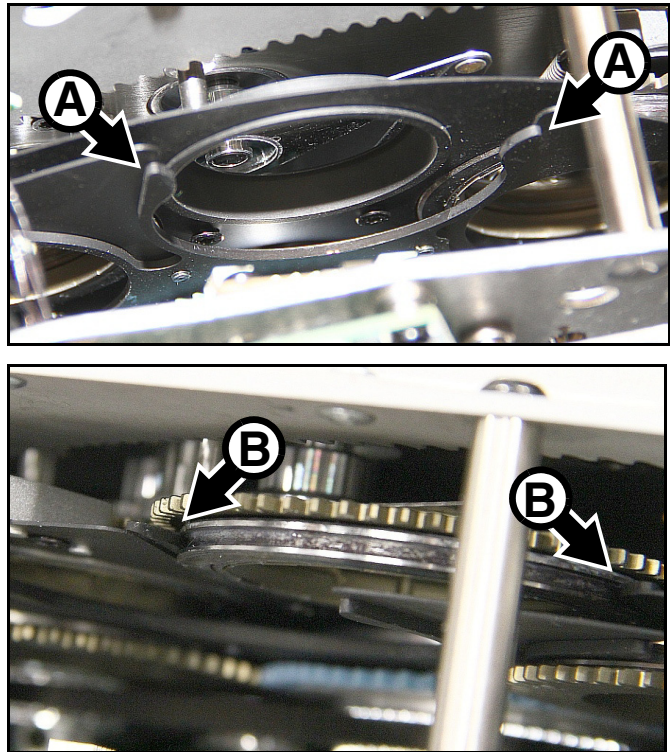

Figure 13: Goboholder clip and corresponding flange in the goboholder
See Figure 13. The goboholders in both gobo wheels are held in position by clips. When you install a gobo in a gobo wheel, you must make sure that the jaws of the clip **A** engage in the flange in the goboholder on both sides of the goboholder as shown at **B**.
5. Goboholders are held in position in the gobo wheel by clips (see Figure 13 on page 23). When you reinstall the goboholder, you must make sure that the jaws of the clip engage in the flange in the goboholder on both sides of the goboholder.